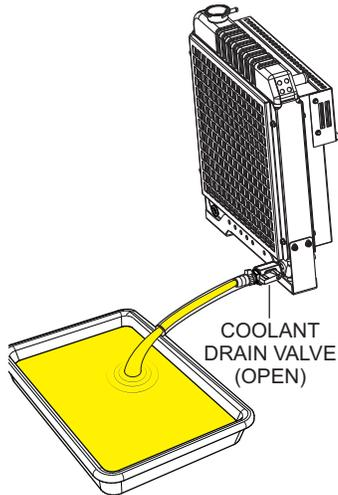

Figure 46. Draining Engine Coolant
- Place the **coolant drain valve** in the **OPEN** position (Figure 46) and allow the coolant to drain into a suitable container.